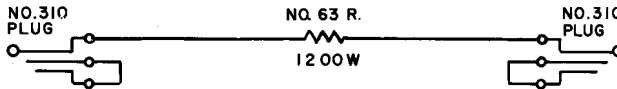

Fig. 1
2.10 For No. 1 step-by-step offices, one special patching cord (to be made up locally) equipped with two 310 plugs, with sleeve and ring elements short-circuited and a 63R resistor, connected as shown in Fig. 1.
Using special patching cord shown in Fig. 1, connect connector test line jacks 3 and 4 in nonlevel hunting group together at connector frame or at coin trunk relay rack.